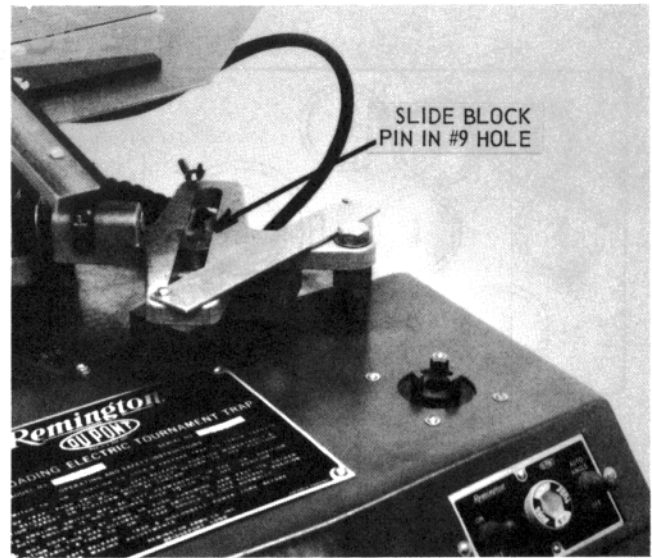

Figure 25 — Slide Block in Number 9 Hole
- 7.8 The auto angle switch should be "Off" and the slide block pin should be in the number 9 hole in the end of the angling shaft (see Figure 25).